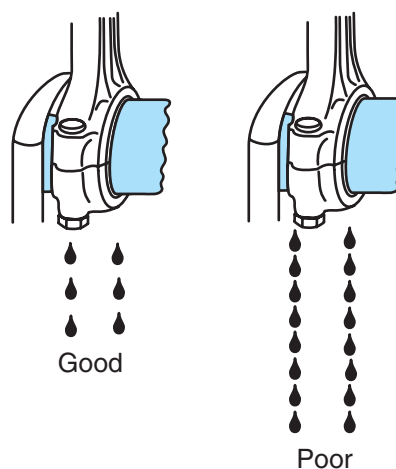

FIGURE 14.47 The amount of oil leakage depends on the amount of bearing oil clearance.
- Acceptable leakage from bearings can be from 20 to 150 drops in a minute. A more rapid flow indicates excessive clearance (**Figure 14.47**).